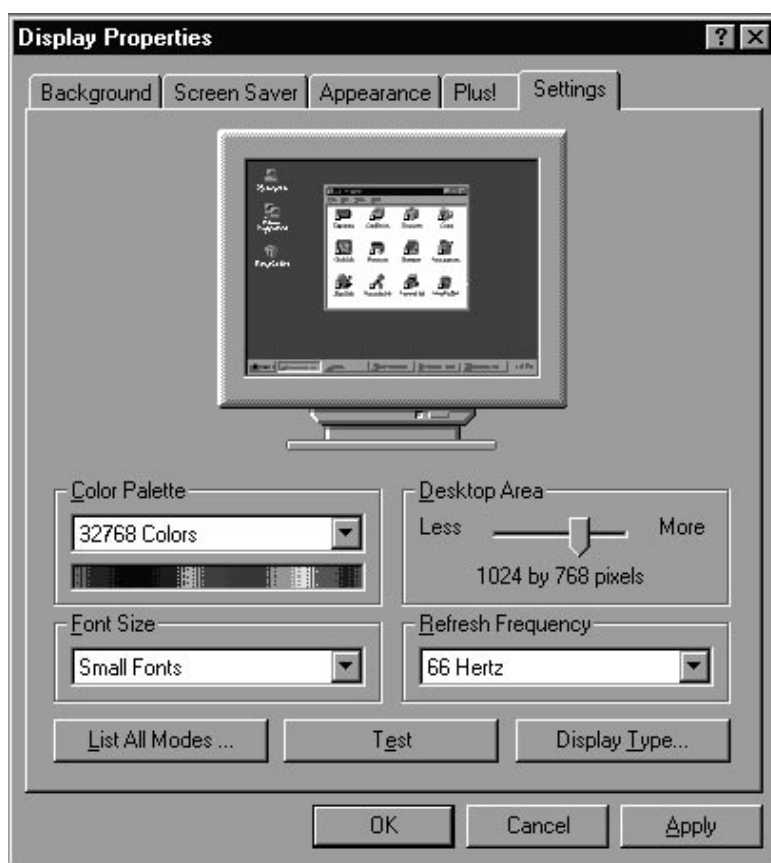

FIGURE 5. Display Properties Box
24. On the Display Properties dialog box select the “Settings” tab. See Figure 5.